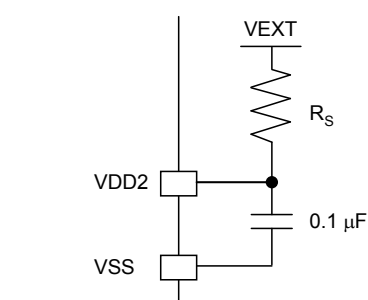

Fig. 1
- When the external supply voltage VEXT = 4.5 V to 5.5 V, connect a 5.1-k $\Omega$  resistor  $R_S$  between VEXT and VDD2 as shown in Fig. 1.